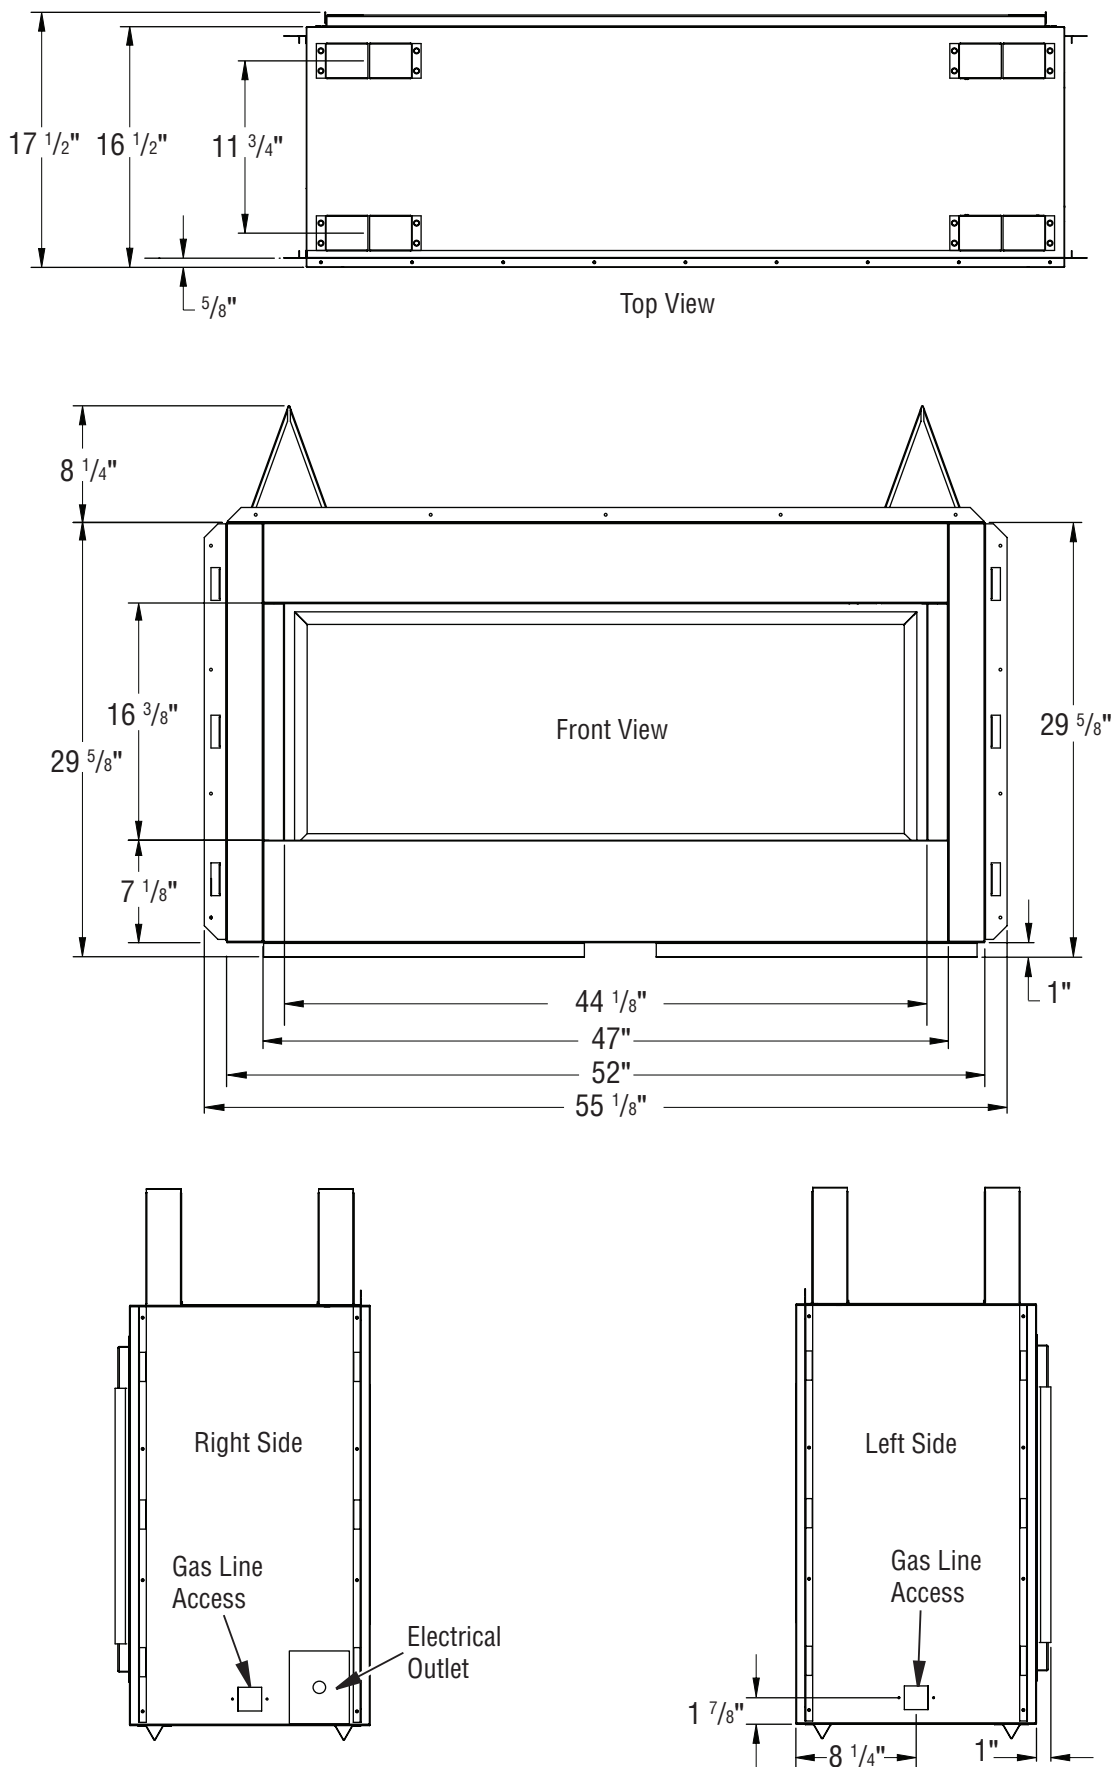

Figure 8 - VRL4543 Series Dimensions
*Please refer to overall fireplace width (**Figure 8, Page 9**) before rough framing construction.